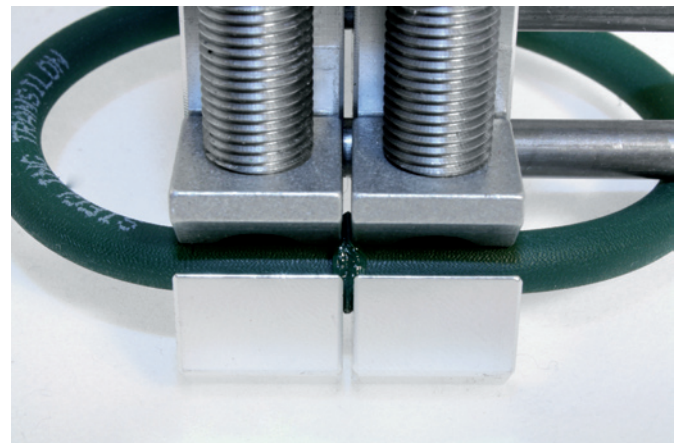

Fig. 14
- 14 Allow the welded joint to cool down for approx. 3 minutes (Fig. 14) (with belts ≥ 8 mm diameter, support this process with cold water).